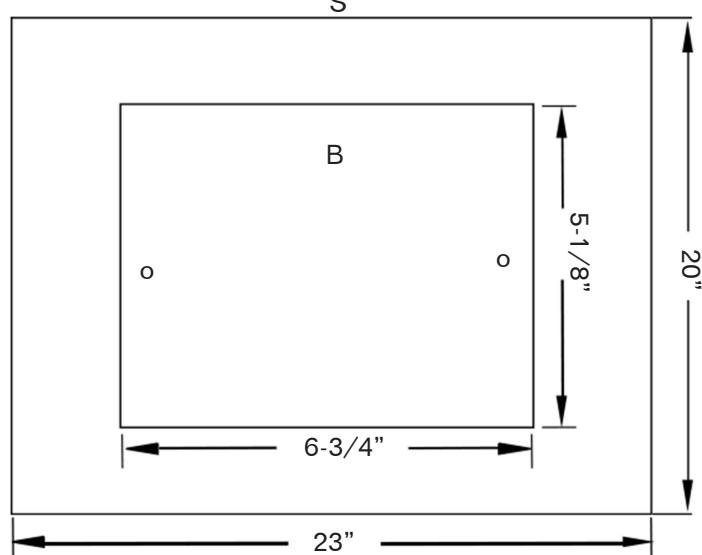

Figure 3 - Shows Sander's Base Dimension (B), Required Space (S), and Mounting Holes (o)
- Figure 3 shows the base dimensions with 2 mounting holes, and required space to allow for table assembly and belt assembly.